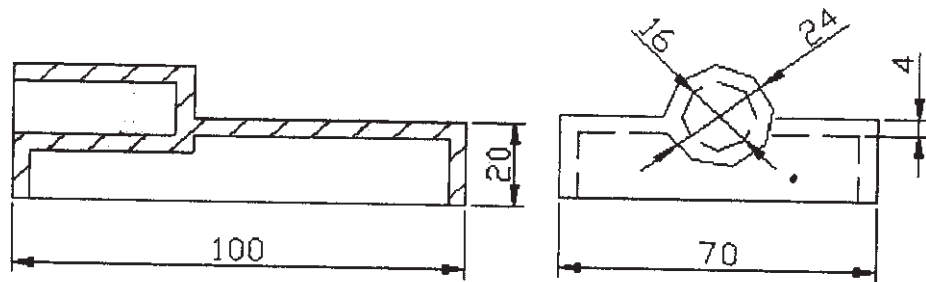

Fig. 1
- Q6)** a) Following data apply to the component shown in Figure 1.